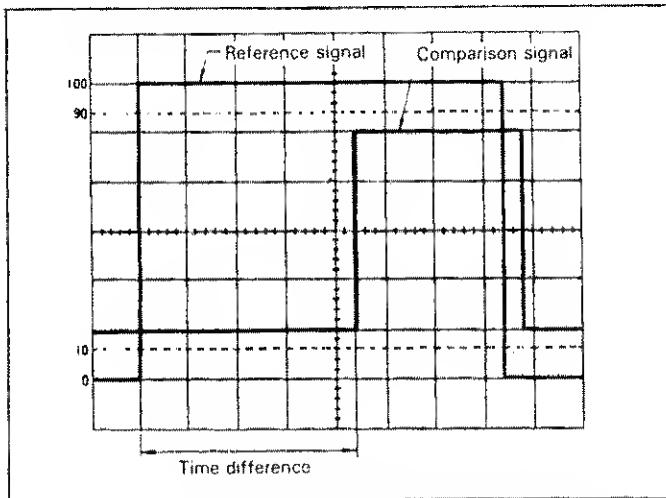

Fig. 14. Time Difference Measurement.
(Refer to Fig. 14)
1. Apply the two signals to the CH 1 (X) and CH 2 (Y) input jacks.
3. Use the \uparrow position controls to superimpose both waveforms to intersect the center horizontal graduation line as shown in Fig. 14. Use the \leftrightarrow position control to set the reference signal coincident with one of the vertical graduation lines.
For the example shown in Fig. 14, the horizontal distance measured is 4.4 divisions. If the sweep **TIME/DIV** is 0.2 ms and **X10 Mag** is not used, the time difference is calculated as follows: